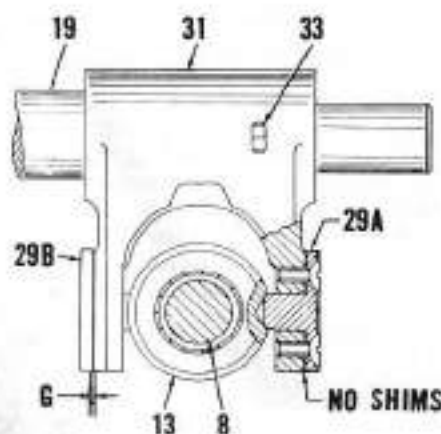

Fig. 14 — View showing method of selecting shims for ball nut peg preload. Refer to text for procedure and to Fig. 11, 12 or 13 for legend.
Install one ball nut peg (29A—Fig. 14) without shims and tighten the two cap screws securely. Install second ball nut peg (29B) without shims and tighten the two cap screws evenly until inner end of peg binds ball nut lightly. Using a feeler gage, measure gap (G) between ball nut peg (29B) and rocker arm (31). The shims to be used in final assembly should be 0.001 to 0.003 less than measured gap (G) and divided equally as possible for installation under each ball nut peg. The shims are available in thicknesses of 0.003, 0.005, 0.007 and 0.010. After the ball nut pegs are reinstalled with proper number of shims, tighten the four cap screws securely and bend lock tabs (28—Fig. 11, 12 or 13)